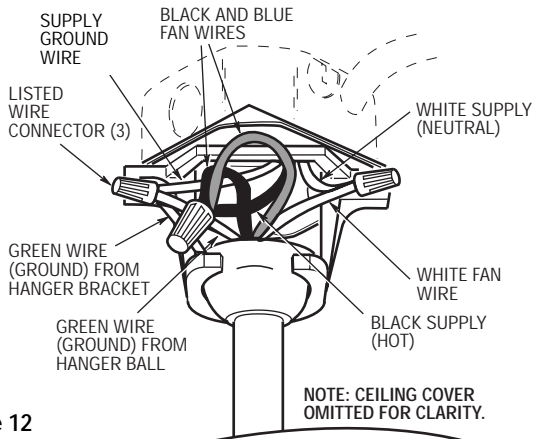

Figure 12
- 1. Connect the green grounding lead from the hanger ball and the green grounding lead from the hanger bracket to the grounding conductor of supply (this may be a bare wire or wire with green colored insulation). Securely connect wires with wire connector supplied (Figure 12).
- 2. Securely connect the fan motor white wire to the supply white (neutral) wire using wire connector supplied (Figure 12). Securely connect the fan motor black wire and blue wire to the supply black (hot) wire using wire connector supplied (Figure 12). After connections have been made, turn leads upward and carefully push leads into the outlet box, with the white and green leads on one side of the outlet box and the black and blue leads on the other side of the outlet box.